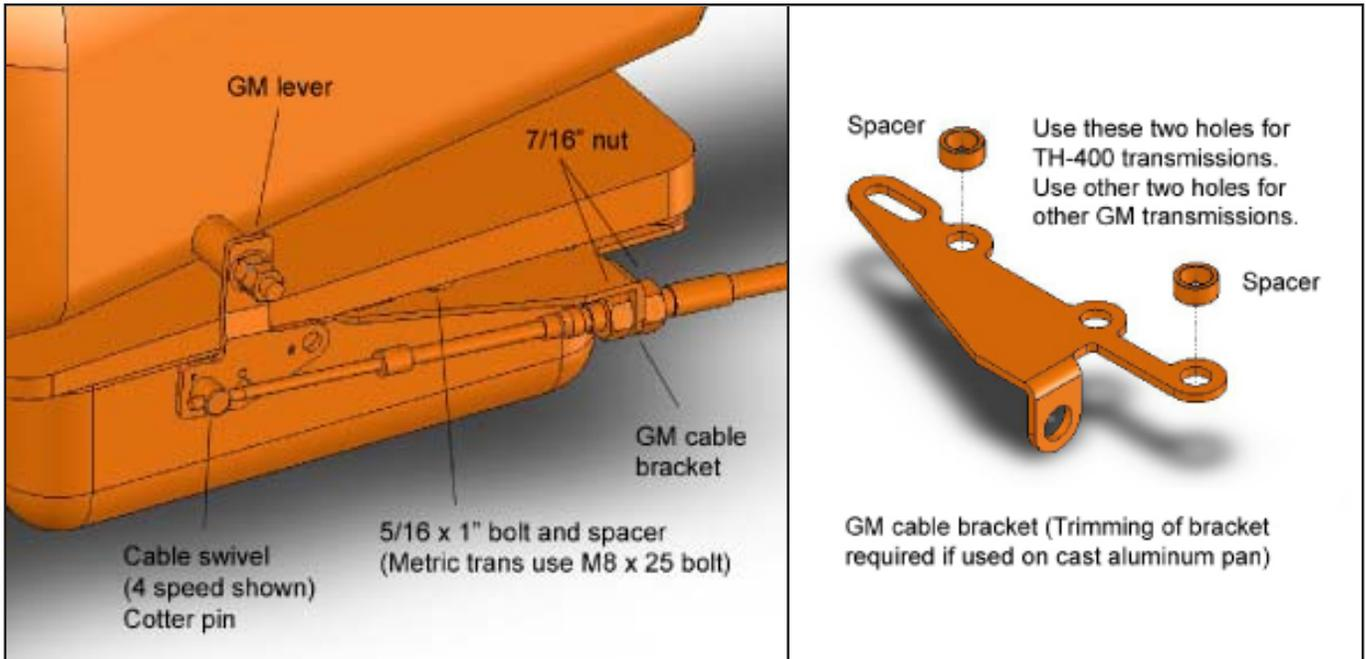

Figure 4
**STEP 8.** If you have not already done so, remove the stock selector lever nut and the selector lever from the transmission. Discard the stock lever and the stock shifter linkage. Install the **B&M** selector lever in position using the stock selector lever nut (**See Figure 4**). Torque nut to 23 lb. ft. The lever should move smoothly from front to rear with a positive click in each gear position.
**STEP 9.** Remove the two transmission oil pan bolts from the middle of the left side of the oil pan. Install the cable bracket in position (**See Figure 4**). The bracket must be installed with two spacers between the pan and the bracket. (If your transmission is equipped with a cast aluminum oil pan, these spacers should be omitted however the cable bracket may have to be modified). Install the two supplied 5/16-18 x 1.00" bolts and tighten to 12-13 lb. ft. Do not overtighten as this can damage the pan gasket.